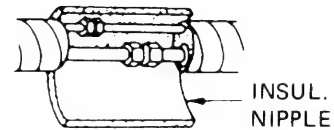

Fig. 28
3. After performing a leak test on the connecting part, insulate it with INSUL. NIPPLE and finish with a vinyl masking tape over it. Fig. 28